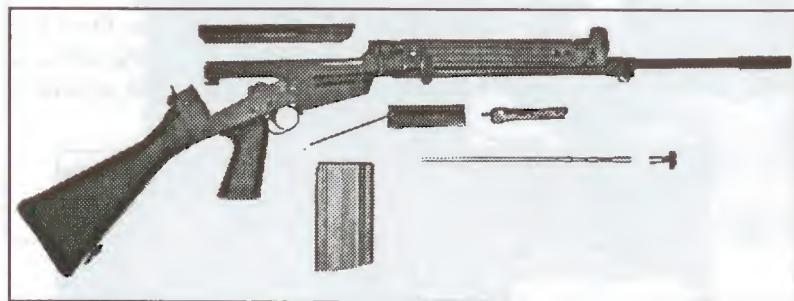

Fig. 1
6. Stripping and assembly. Stripping and assembly for normal cleaning and maintenance can be done with special tools. For the usual cleaning, it is sufficient to take out the magazine, gas plug and piston and the bolt assembly, after removing the top cover (fig. 1). The bolt assembly and the cover can be removed very easily. The weapon opens like a break action shot-gun, i.e. the butt is hinged to the body and the rifle swings open to give access to the mechanism. The return springs, encased in the butt, requires minimal maintenance and should be cleaned manually by the user.
Turning the gas regulator to the left (anti-clockwise) causes the opposite effect: gas escape is increased and the balance available to work the piston is decreased. By a system of "clicks" and engagement of the gas regulator spring, the regulator has 13 different positions (12 "clicks" to open fully). To make setting in any given position easier, figures are engraved on the gas regulator, the figure 1 corresponding to the completely closed position and one figure for every 2 "clicks" opening.